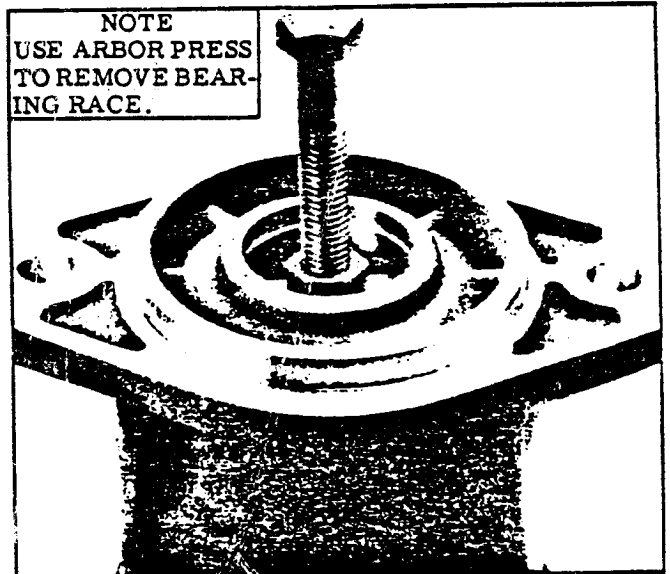

Figure 14. Removal of the bearing race located within the housing.
- c. Press the drive shaft through the bearing. A 0.001 inch press exists between the shaft and bearing so considerable force is required to remove the bearing from the shaft. **DO NOT** remove the bearing race unless bearing (22) was found defective. Refer to Figure 14 for bearing race removal instructions. Use special tool shown in Figure 6.